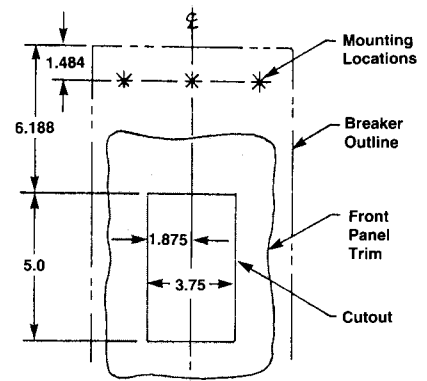

Fig. 6
- Make bus and/or cable connection to rear of mounting block studs using hex nuts (17) furnished to secure this connection.
- Place shields (21) over tulip assemblies and align with mounting holes on breaker. Discard large and small insulation shields packed with breaker.
- Align breaker with mounting blocks and force female tulip clips over male studs in mounting block until breaker base bottoms against mounting block. Secure breaker in place with $\frac{3}{8}$ -16 x $1\frac{1}{2}$ " long mounting screws (18), lockwashers (19) and flatwashers (20) furnished.
- If installation requires the use of front panel trim, provide cutout for breaker escutcheon as shown in Fig. 6.